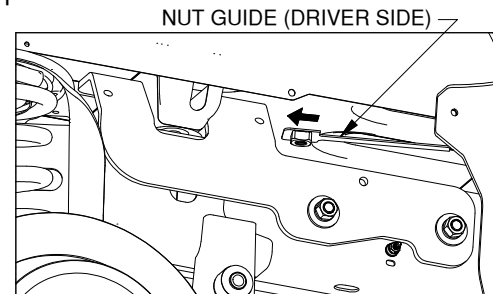
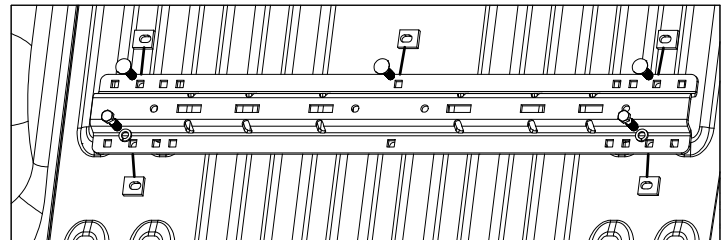
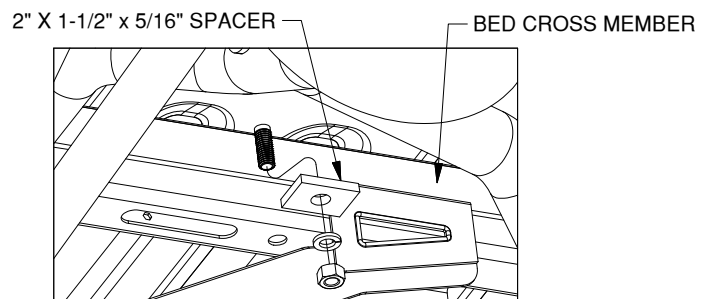

Figure D3: View looking into driver side wheel well.
Figure D4: View looking down into the truck bed from rear of truck.
Figure D5: View looking up under the truck bed.
3. **The rear mounting rail (four corner air suspension).** Re-position the rear mounting rail over the drilled 9/16" holes in the bed. Place a 5/16" thick offset spacer between the bed and the mounting rail at the five drilled positions. Due to the air tanks under the bed there is not convenient access to the underside of the two outside rearward holes in the rear mounting rail. A 1/2" x 2" cap screw and nut guide (driver and passenger) will need to be utilized. The nut guide will need to be positioned under the 9/16" hole on each side by holding the handle behind the rear side plate with the nut side down, see Figure D3. The 1/2" x 2" cap screw with a 1/2" lock washer will then need to be threaded into the nut guide from the top of the bed by another person. Next, place a 1/2" x 2" carriage bolt through the three remaining drilled locations, see Figure D4. Attach each of the carriage bolts with a flat washer, lock washer, and nut. The center carriage bolt will need a 2" x 1-1/2" x 5/16" spacer instead of the flat washer, see Figure D5. Hand tighten each nut and cap screw.